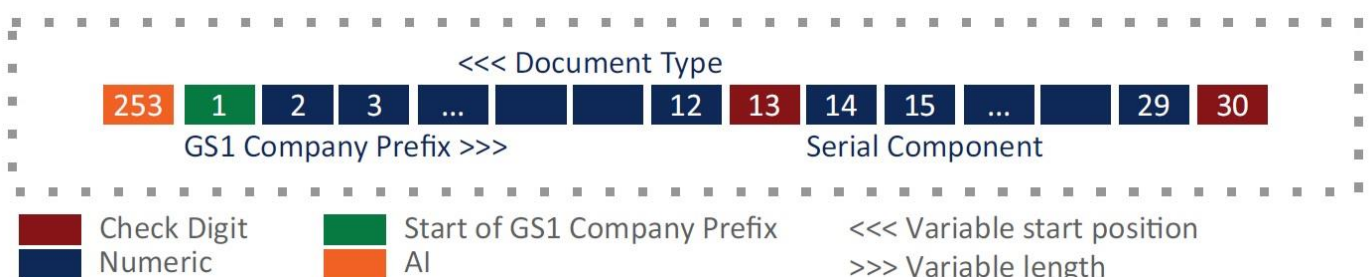

Figure 5: Certificate of Analysis GDTI Identifier overview.
The Certificate of Analysis GDTI ID is comprised of its Application Identifier (253), GS1 Company Prefix, a Document Type number, and a Serial number, as seen in Figure 5. When creating a GDTI ID for a Certificate of Analysis the Document Type number and Serial number are fixed length numbers, assigned by the organisation that creates the documents.